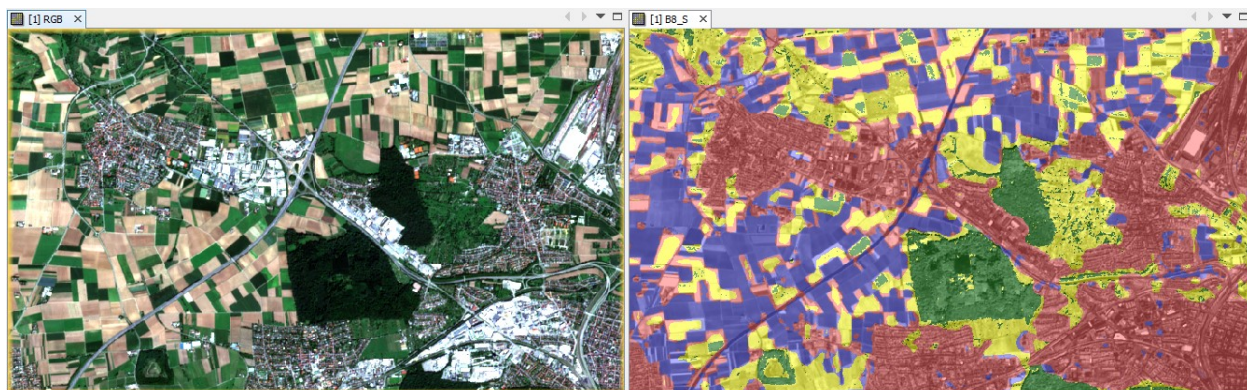

Figure 36: Masking of landcover classes with the Mask Manager
It is important that the mask descriptions are not overlapping. It is however also possible to select two masks and combine them with logical expressions: Union (OR) , Intersection (AND) , difference  , or complement . Figure 36 shows how the result of the mask definitions looks like.